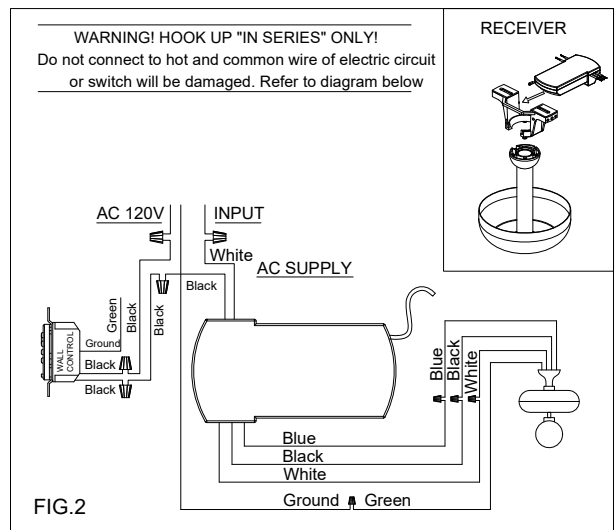

FIG.2
2. INSTALLING THE RECEIVER (FIG 2)
Remove wall plate, disconnect and remove the toggle switch from wall junction box. Using the wire nuts provided, make the electrical connections to the new Transmitter unit as shown in figure 2.